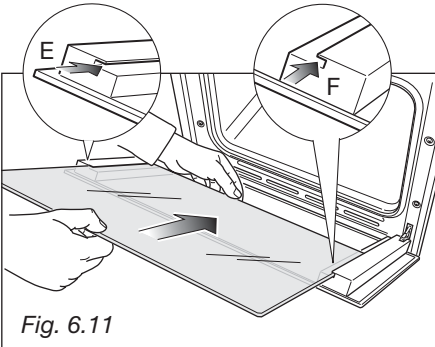
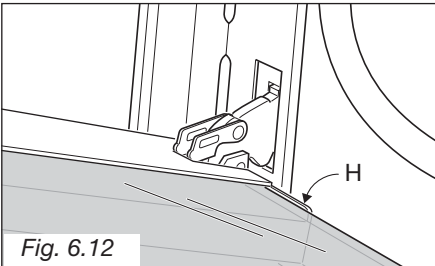

Fig. 6.11
Fig. 6.12
- Insert the inner glass in the left "E" and right "F" side guides (fig. 6.11) and gently let it slide up to the retainers "H" (fig. 6.12).